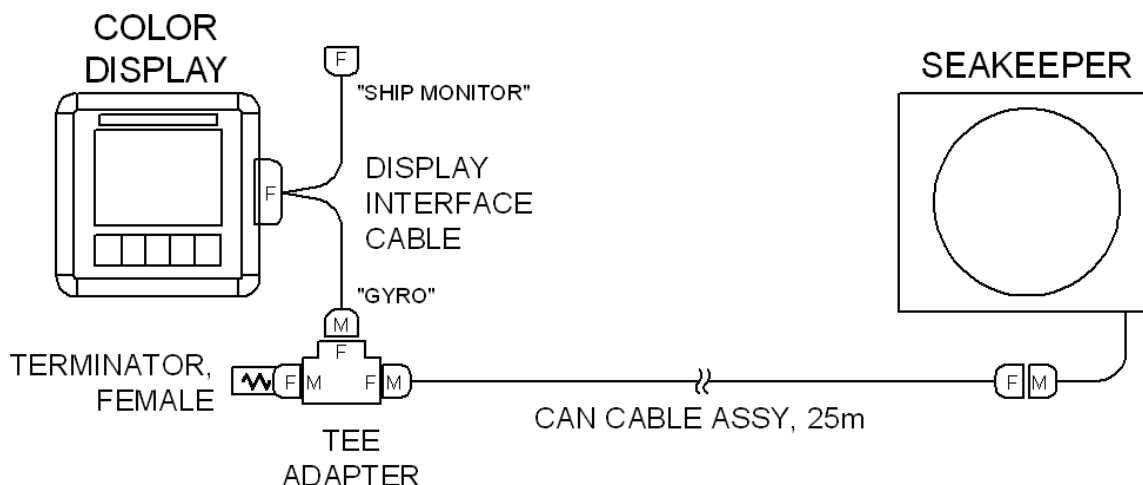

FIGURE 10 – SERIAL COMMUNICATIONS LINK FOR OPERATOR STATION
- c. Figure 10 below shows the CANbus communications link for the Operator Station. The Terminator goes on one the far end of the Tee Adapter from the Seakeeper.